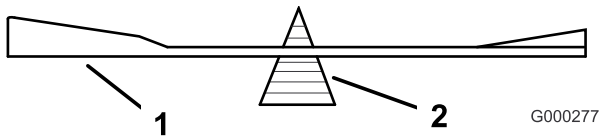
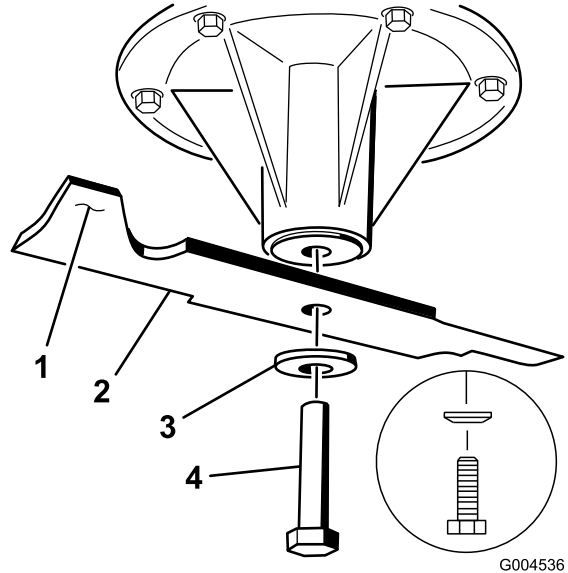

Figure 94
Figure 95
2. Check the balance of the blade by putting it on a blade balancer (Figure 94). If the blade stays in a horizontal position, the blade is balanced and can be used. If the blade is not balanced, file some metal off the end of the sail area only (Figure 95). Repeat this procedure until the blade is balanced.
1. Install the blade onto the spindle shaft (Figure 95).
2. Install the spring disk and blade bolt. The spring disk cone must be installed toward the bolt head (Figure 95). Torque the blade bolt to 85-110 ft-lb (115-150 N-m).